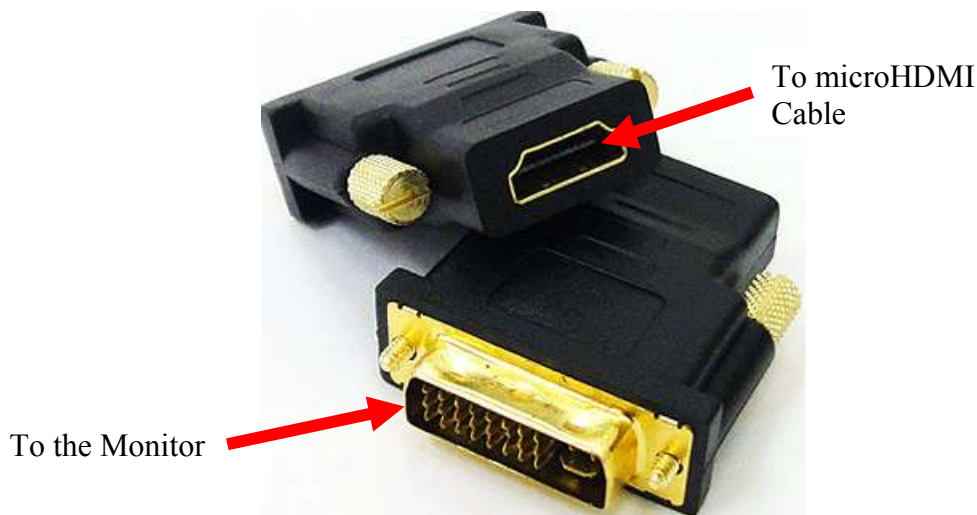

Figure 8. DVI-D to HDMI Adapter
2. If you have a DVI-D monitor you must use a DVI-D to HDMI adapter in addition to your HDMI cable. An example is shown in **Figure 8** below from two perspectives. If you use HDMI, you will not have audio support.